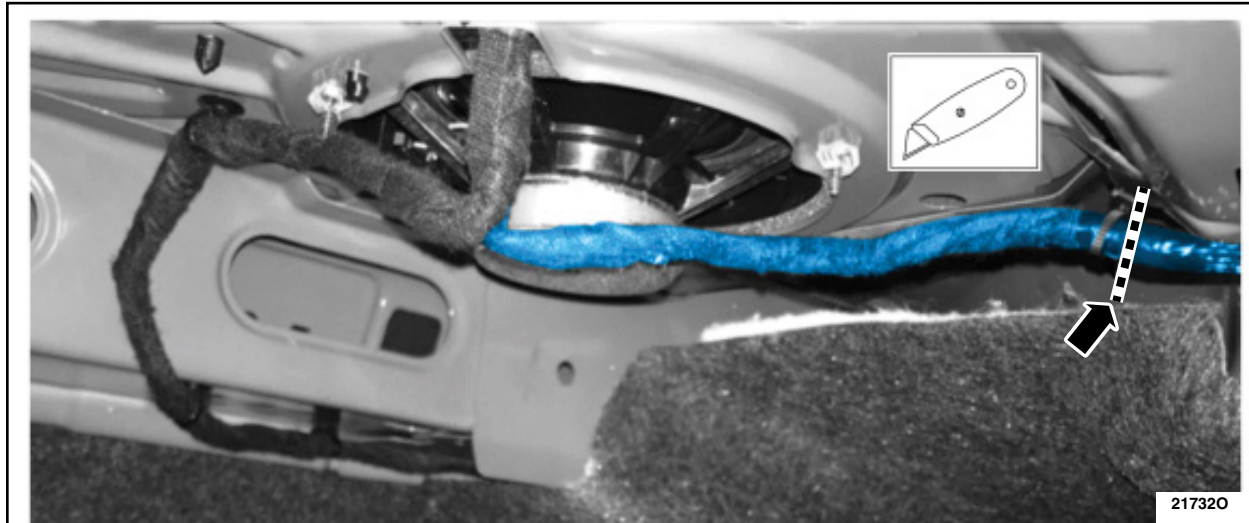

FIGURE 5
11. Cut out the damaged section of the harness. Make the cut at the location of the harness noted. See Figure 5.